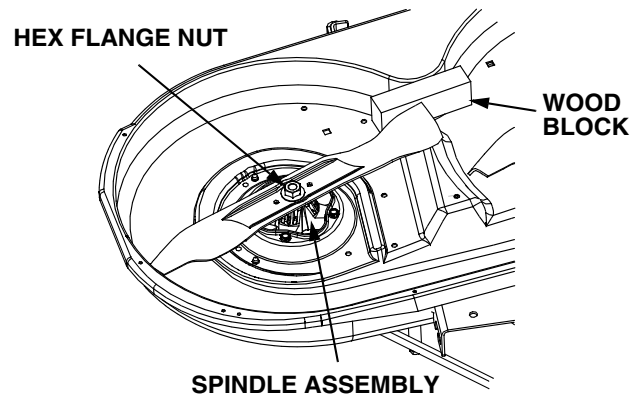

Figure 35
- Use a 15/16 inch wrench to hold the hex nut on top of the spindle assembly when loosening the hex nut securing the blade. A block of wood may be placed between the deck housing and the cutting edge of the blade to help in breaking loose the hex nut securing the blade. Refer to Figure 35.